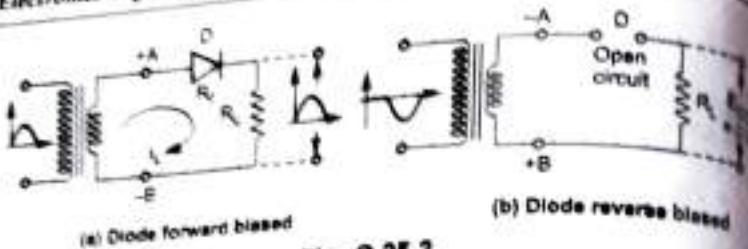

Fig. Q.25.2
- During the positive half cycle of input a.c. voltage, terminal (A) becomes positive with respect to terminal (B). The diode is forward biased and the current flows in the circuit in the clockwise direction, as shown in the Fig. Q.25.2 (a). This current is also flowing through the load resistance  $R_L$  hence denoted as  $i_L$  (load current).
- During negative half cycle when terminal (A) is negative with respect to terminal (B), diode becomes reverse biased. Thus it acts as an open circuit. Hence no current flows in the circuit as shown in the Fig. Q.25.2 (b).